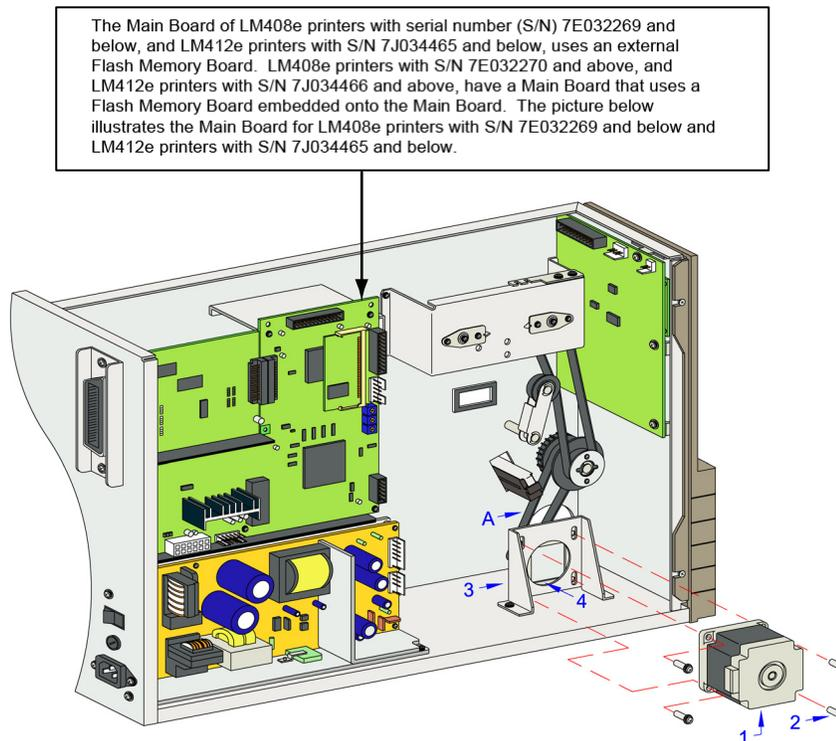

Figure 7-4, Drive Motor Replacement
3. Disconnect from the motor's wiring harness from defective drive motor (1, Figure 7-4).
4. Remove four screws (2) securing defective drive motor (1) to motor bracket (3).
5. Apply timing belt (A) to the motor's spindle (not shown).
6. Secure replacement drive motor (1) to motor bracket (3) using four screws (2) and mounting plate (4).